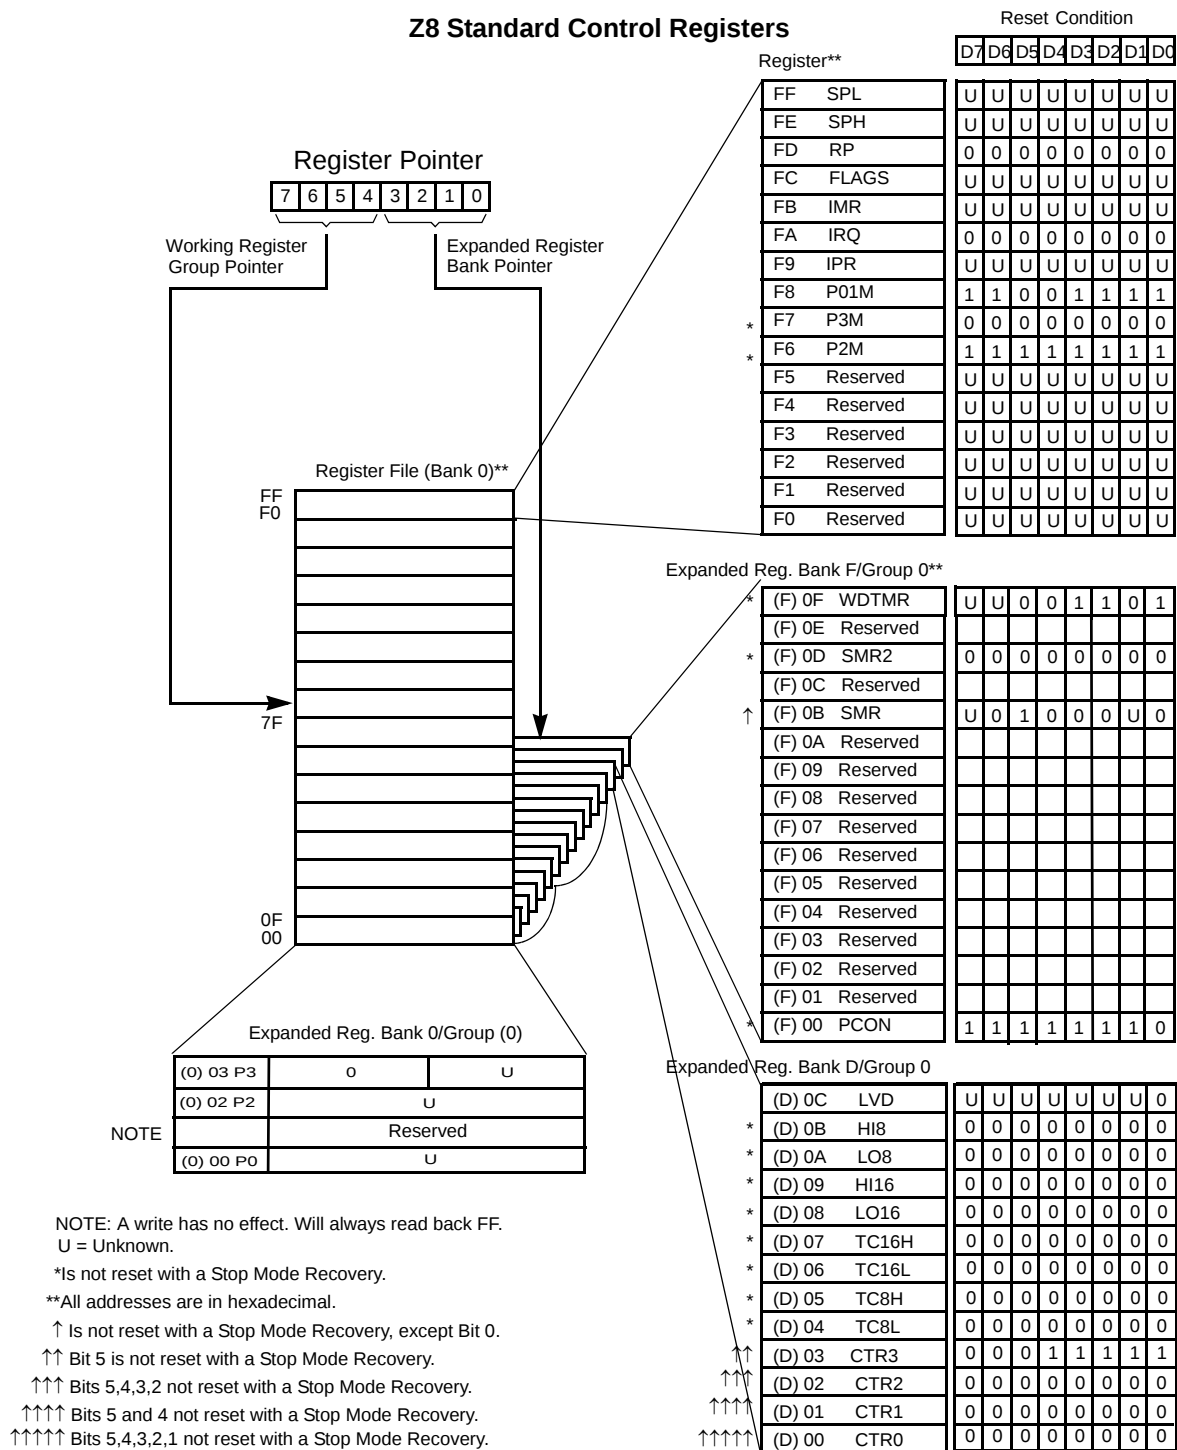

Figure 10. Expanded Register File Architecture
► **Note:** *An expanded register bank is also referred to as an expanded register group (see Figure 10 on page 17).*
Example: (See Figure 10 on page 17)